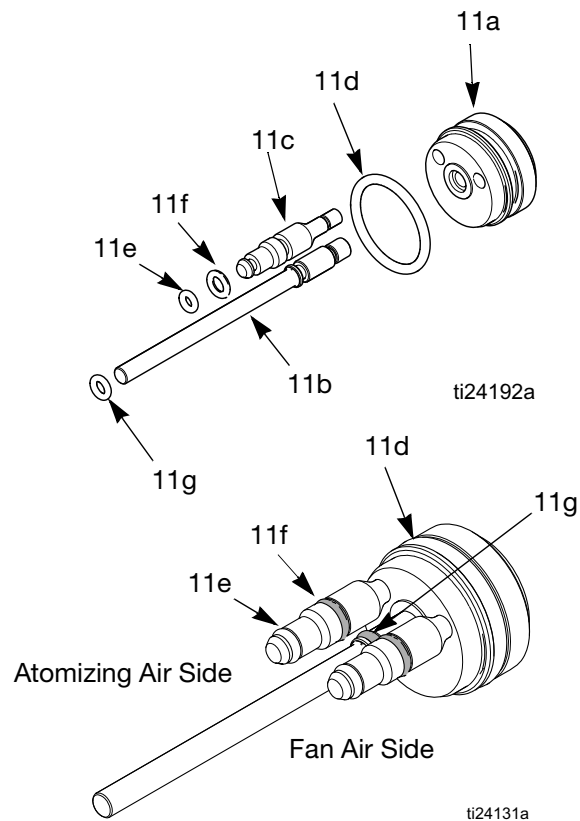

FIG. 24. Piston O-Rings
4. Remove piston cap (13) from the rear of the gun.
5. Push on the piston rod (11) to push the piston out the back of the gun.
6. Inspect the o-rings (11d, 11e, 11f, 11g) for damage. See Table 3 and FIGURE 24.
9. Install spring (12) and piston cap (13).